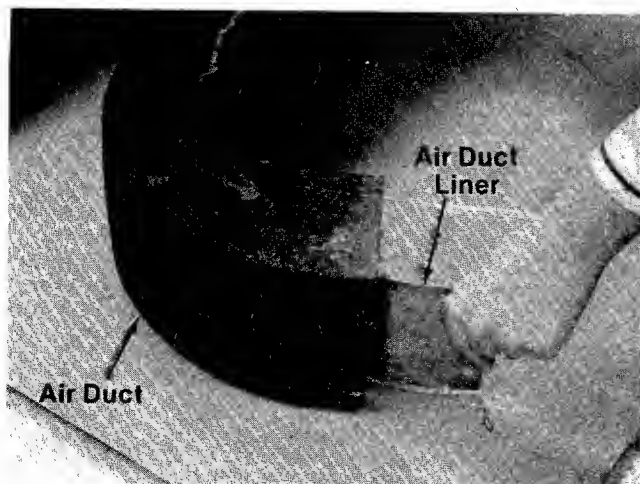

FIGURE 1
- (H) 4 Thumb Nuts 5/16-18 Thread
- (I) 1 Deflector
- (J) 2 Hex Bolts 1/4-20 x 1.50" Long*
- (K) 2 Cable Ties*
- (L) 1 Ferrule*
- (M) 1 Control Lever*
- (N) 1 Flat Washer .510" I.D. x .75" O.D.*
- (O) 1 Spacer*
1. Place the upper handle in position. Fasten with four (4) hex bolts (A) and hex center lock nuts (B) provided.
2. Place the air duct liner (studded end first) into the elbow of air duct. See figure 1.